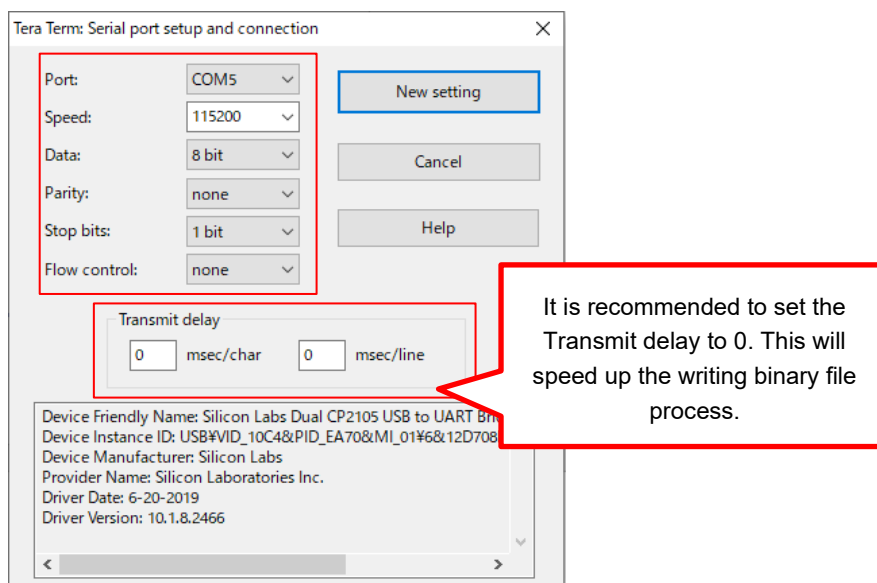
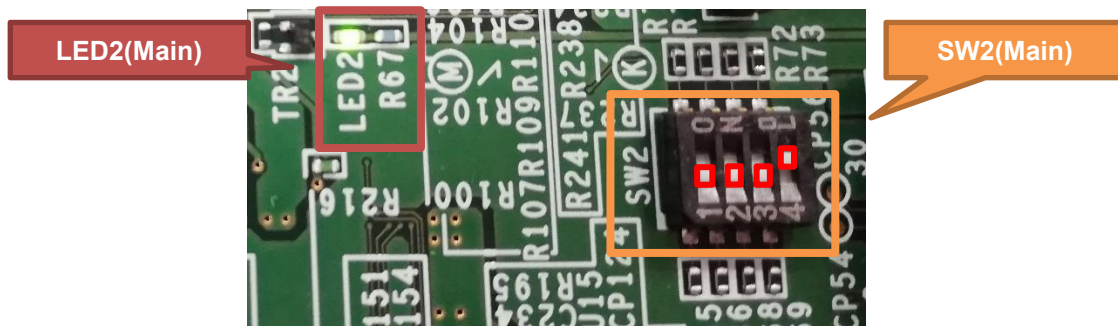

Figure 4-2. Terminal software setting
Figure 4-3. LED lights in the forced write mode (RZ/V2M Board)
- (2) Start the terminal software on your PC. Figure 4-2 shows the setting of the terminal software.
- (3) Start the new connection. Choose "Standard COM Port" on the terminal software.
- (1) Insert the micro-SDHC card prepared in 3.1.1 into the micro-SD card slot on the RZ/V2M Evaluation Board Kit.
- (2) Set the SW2(Main) on the RZ/V2M Board as shown in Figure 4-2 and Figure 4-3 to change the board operation mode to "forced write mode".